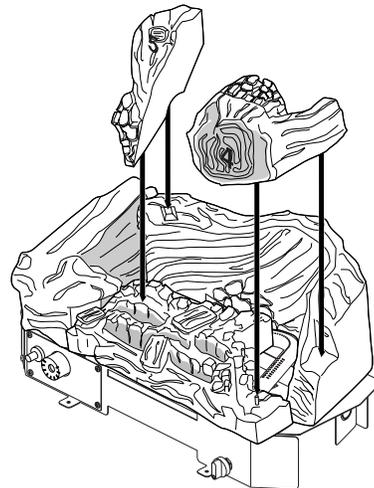

Figure 22 - Installing Logs #4 and #5 (Model CGX3930NT Shown)
4. Place log #4 onto the pins on the right side of log #1 and onto the “ledge” on the front of log #2 (see Figure 22).
5. Place log #5 over the knob on log #2 and across the back part of log #1. It will slant down toward the front (see Figure 22).